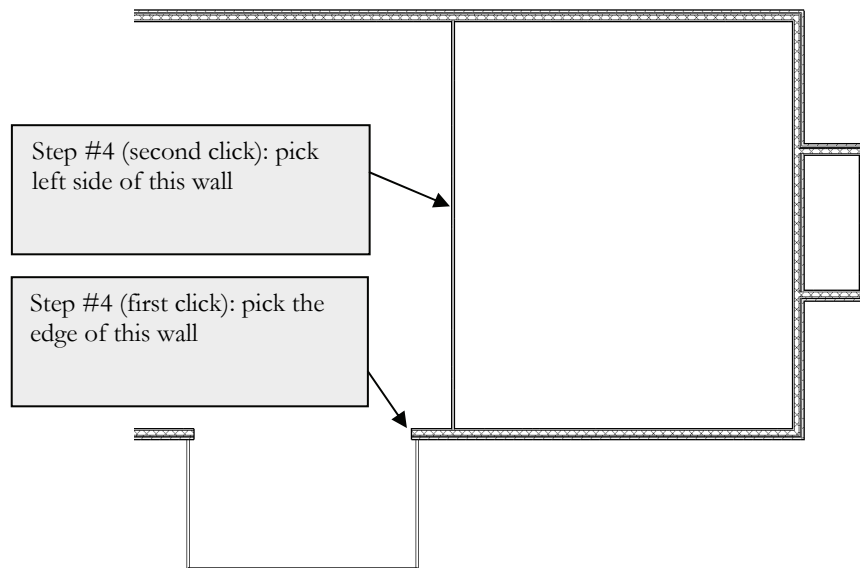
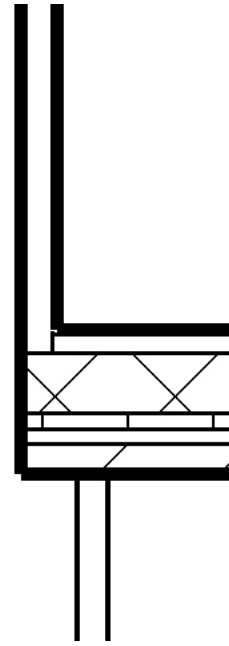

FIGURE 3-3.1 First interior wall
FIGURE 3-3.2
3. Draw a “vertical” wall approximately as shown in Figure 3-3.1. You will adjust its exact position in step #4.
4. Select **Modify** → **Edit** → **Align** tool to align it with the edge of the exterior wall in the atrium (Figure 3-3.1). When you are done, the wall should look like Figure 3-3.2.